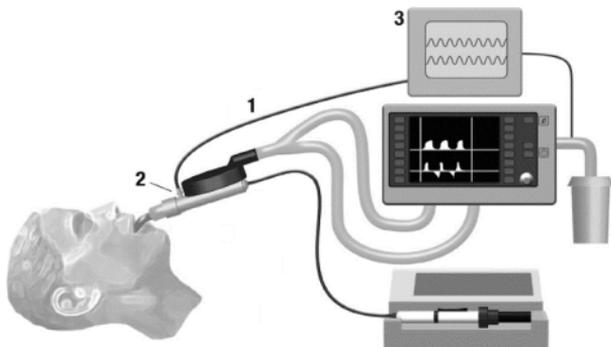

Figure 1
1. Connect the Gas Sampling Line (1) to the Sedaconda ACD gas monitor sampling port (2) as shown in Figure 1. Rotate the Luer connector clockwise for a secure fit to ensure that there is no leakage of gases at the connection point.
2. Connect the Gas Sampling Line (1) to the respiratory gas monitor (3). Rotate the Luer connector clockwise for a secure fit to ensure that there is no leakage of gases at the connection point.